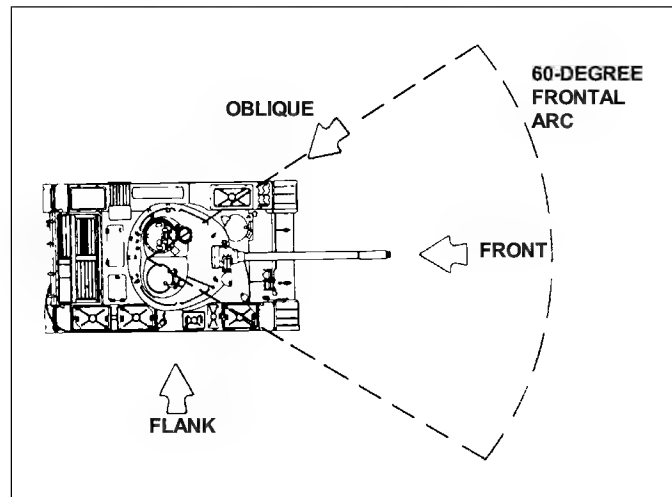

Figure 8-19. Flank and oblique target shots.
b. Gunners have a better chance to get a kill with oblique or flanking shots. They must keep themselves ready for opportunities. For example, a potential target may expose its flank when it tries to bypass an obstacle or evade an oncoming ATGM. Gunners produce more mobility kills with flank and oblique shots. However, they can do so even if they only hit the vehicle's wheels, track, or suspension system (Figure 8-19). Flank shots deflect off armor less often than oblique shots. The top or bottom (belly) of an enemy armored vehicle may show briefly, while the vehicle breaches an obstacle or antitank ditch, fords a river with steep banks, or traverses a shallow valley. By carefully analyzing the terrain in the assigned sector of fire, the gunner can determine where approaching armor units will expose their weaker armor.